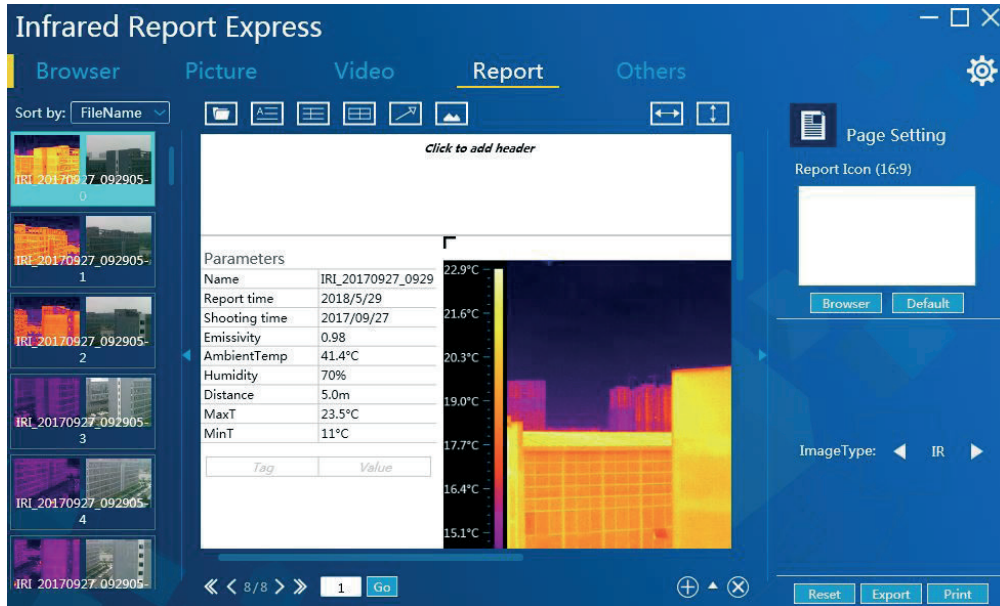

Figure 3-46
4. The software will automatically generate a report and will automatically update all parameters of the current infrared picture. See Figure 3-46: